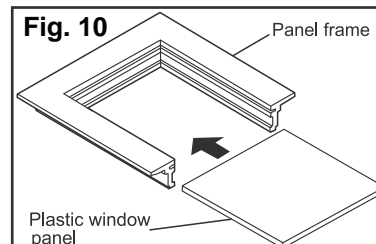

Fig. 10
(Fig. 10) Slide in the window panel, with the smooth side to the room. Slide panel frame assembly into side channels of the AC cabinet. Make sure plastic window panel is firmly enclosed on all sides by the retainer grooves.
12. To remove front: (Fig. 10)